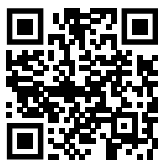

Fig. 48
- ▶ Hapni Liebherr SmartMonitoring Dashboard. (shihni Fig. 48)